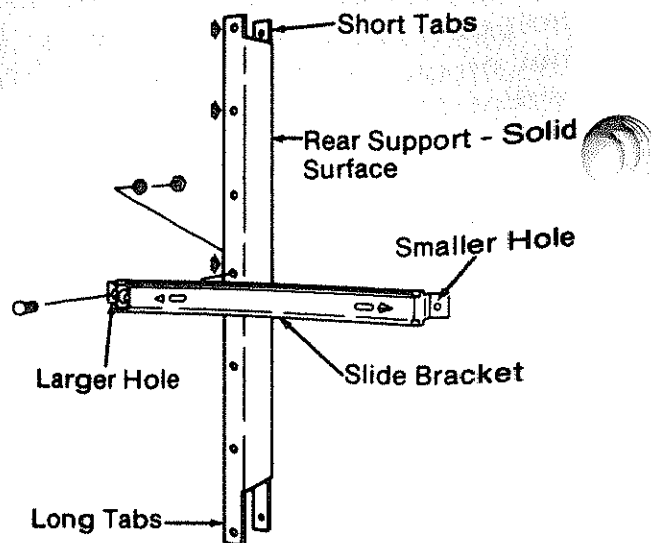

Fig. 23
5. Attach three *slide brackets* to the left side of this *rear support* with three truss head bolts. Make sure that you attach the larger hole in the *slide bracket* to the *rear support*. Put a lockwasher and hex nut on each bolt and tighten using a 7/16 inch wrench or socket. (Figure 23)